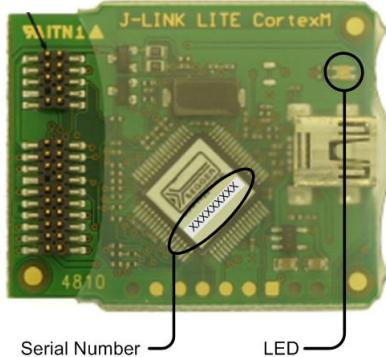

Figure 37 J-Link Lite CortexM-9 serial number location
2. Download and run the J-Link Software and documentation pack for Windows from <http://www.segger.com/jlink-software.html>. The serial number from your SEGGER J-Link hardware is needed, see *Figure 37 on page 50*.